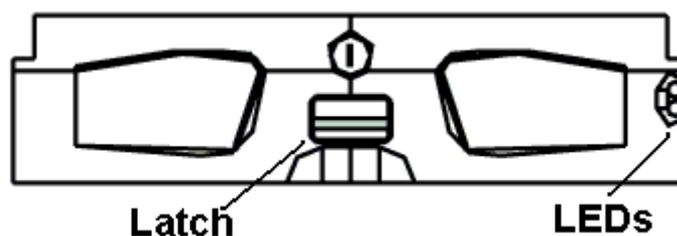

Figure 1-8: Drive Tray Front View
Each ES A16F subsystem comes with sixteen (16) drive trays. The front panel of each drive tray (see *Figure 1-8*) contains a latch that secures the drive tray to the RAID subsystem enclosure. Two (2) status-indicating LEDs are also located on the front of the drive tray. Retention screw holes are located on the sides of the drive tray. These holes